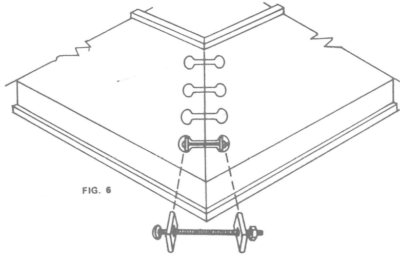

FIG. 6
3. Place fasteners in position (Fig. 6) and tighten only enough to hold fasteners in place.